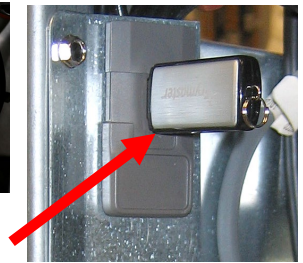

Figure 6
3. Insert the USB flash drive (see Figure 6).